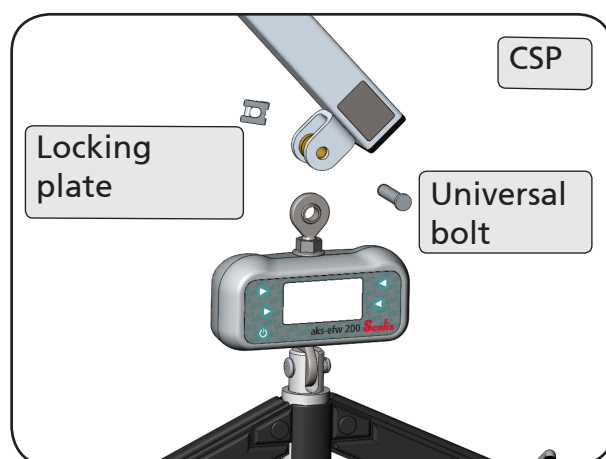

Figure 02
2. Fasten the weighing unit to the upper attachment eye using the existing universal bolt with locking plate at the CSP of the patient hoist (Figure 02).